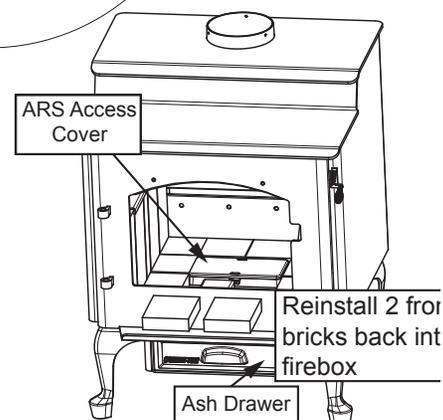

Figure 23.4
1. Replace 2 front bricks that were removed (**Figure 23.4**).
3. Install ARS access cover inside of ARS Channel that is located inside the firebox (**Figure 23.4**).